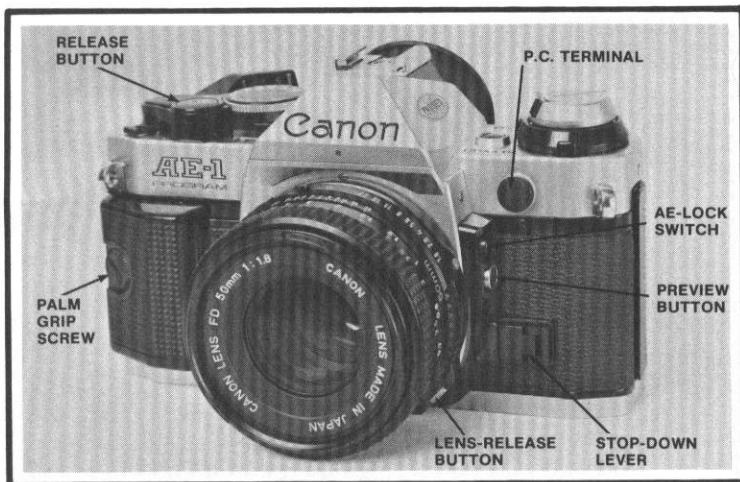

Figure 1
- **LENS:** Accepts all Canon breechlock lenses. To remove the new-style lens, push the lens-release button and rotate the lens in a counterclockwise direction, Fig. 1. At the auto setting, a pin at the back of the lens pushes in the EM change pin in the lens mount. The diaphragm-control lever at the side of the lens mount then determines how far the diaphragm can close. The lens sets the maximum-aperture information by pushing in the maximum-aperture correction pin at the bottom of the lens mount. Flange-focal distance (back focus): 42.14mm (front of lens mount to pressure-plate rails), 41.9mm (lens mount to film-guide rails). Tolerance: ± 0.02 mm. Adjust by shimming the lens-mounting ring.